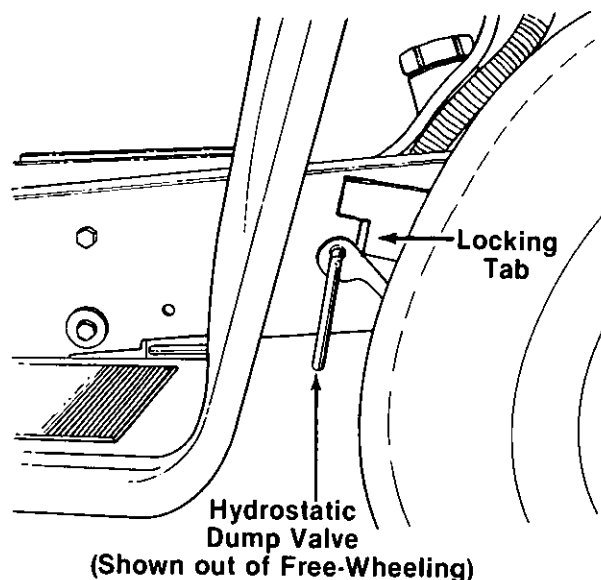

FIGURE 6.
2. To disengage the dump valve, pull handle out and push forward so that lock is removed from tab. See figure 6.